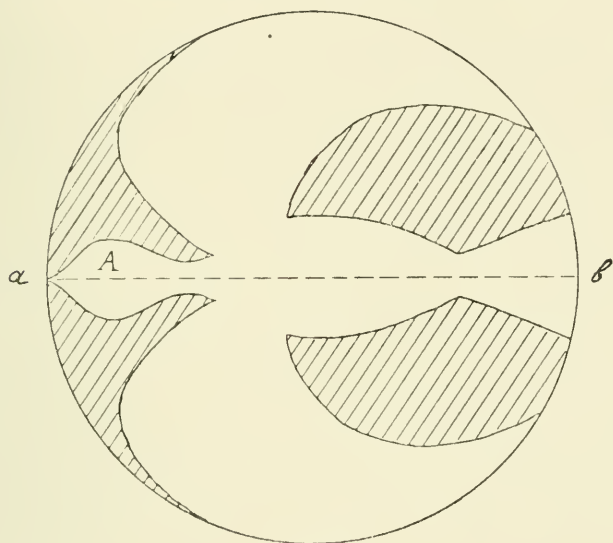

FIG. 476
In making one's first glider one cannot do better than copy a bird. On a piece of paper draw a circle, fold it in half, draw a bird on one half, as in Fig. 476, cut it out, when the paper is opened it will appear as in the figure. If this bird is thrown head first toward the ground, it will probably fall. If two little bits of cardboard are gummed on each side of his head, he will make a better flight and land on the ground after making a gentle curve. A still better bird may be cut from cardboard, a half cut is then made along *a b* to bend it, and the head is weighted with sealing-wax. How well this bird flies depends on the weight, and to some extent on the shape of the bird. Birds of various shapes and with different amounts of sealing-wax should be tried, until one is made that glides to the ground in a long, graceful curve.
(1) Draw the bird in a circle as already explained, this ensures that the wings will be exactly balanced.
(2) If the head in Fig. 476 is not long enough for a graceful flight, a longer head cut from cardboard can be pasted on.